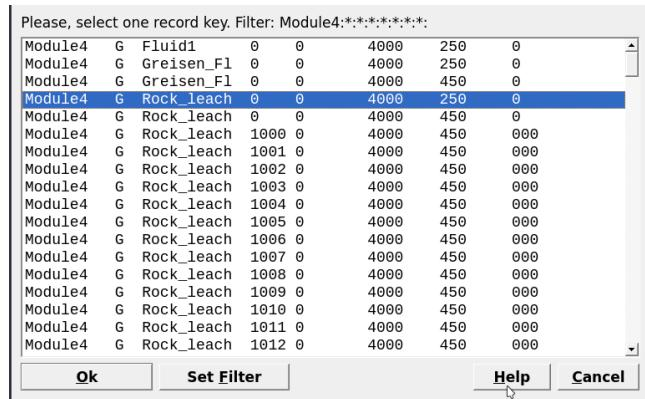

Figure 4.10: Selection of parent system equilibrium records for setting up a new multipass leaching model at 250 °C and 4 kbar.
- To change the model temperature, we are now going to create a new “Rock_leach” simulation by cloning the Process record and selecting the correspond parent chemical system at 250 °C (Fig. 4.10).